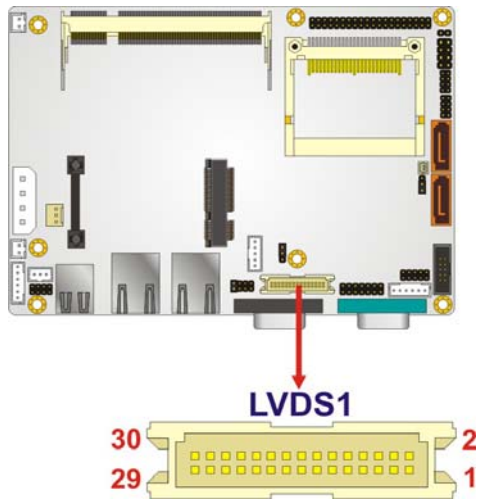

Figure 3-11: LVDS LCD Connector Pinout Locations
- CN Location:** See **Figure 3-11**